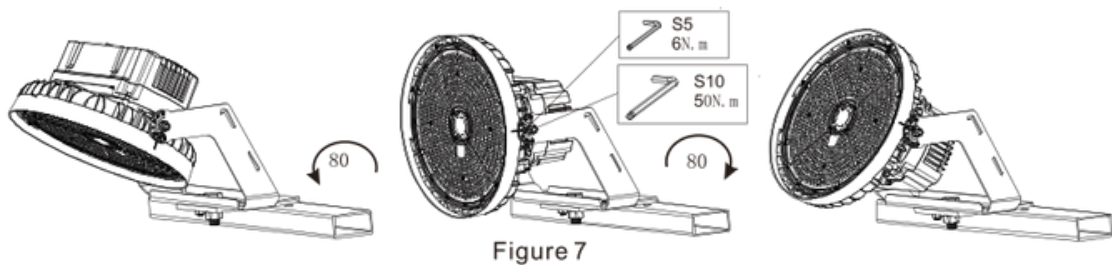

Figure 7
2. Use an open-end wrench and hex wrench to loosen the adjusting screw for adjusting the angle . (Figure 7)